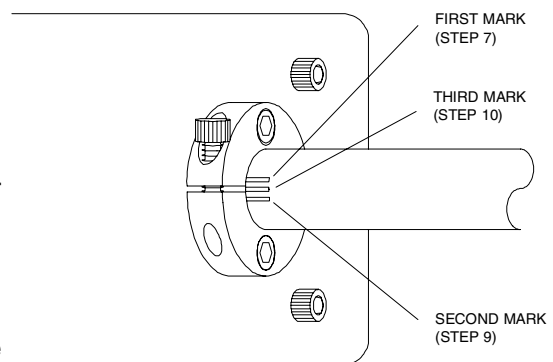

Figure 11: Marking valve or standoff during alignment procedure
- While holding the valve steady, use a soft pencil or ink marker to make a mark on the standoff corresponding to the slot in the actuator clamp ring. This slot makes a clear fixed reference point for observing relative rotational positions. In the case of a closemount valve, make this mark on the valve body. (**Figure 11**)
- Make another mark as in Step 7. (**Figure 11**)
- Make a third pencil mark halfway between the first two and rotate the valve counterclockwise until this midway mark is reached. (**Figure 11**)